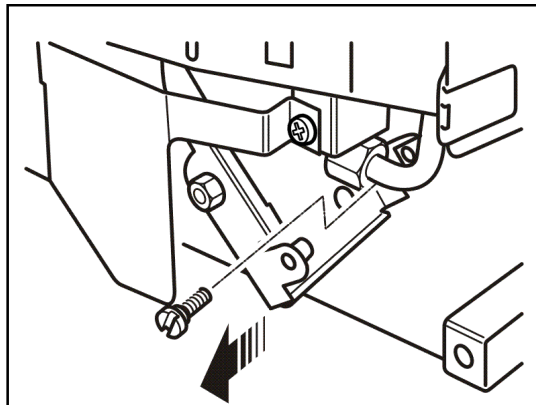

Figure 10. Control linkage
4. Disconnect the control linkage from the burner unit by removing the shouldered screw which joins the control linking bar to the control pivot unit (See figure 10).